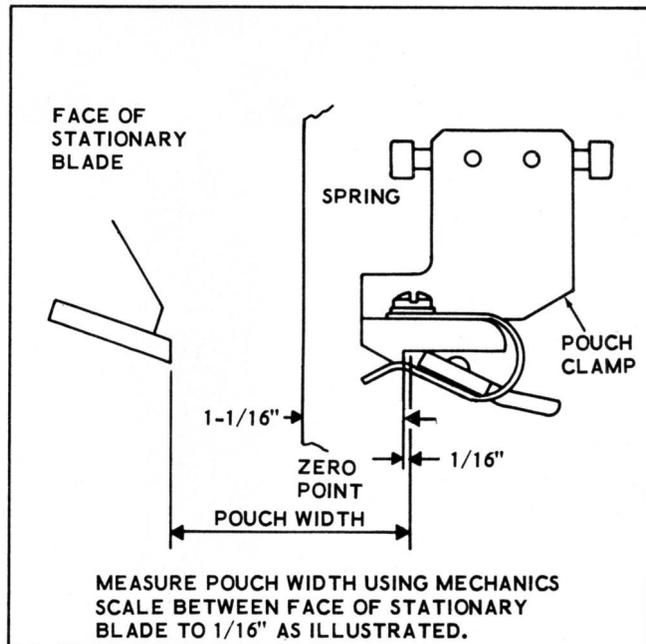

Figure 3-34. Measuring Pouch Width from Stationary Knife to Pouch Clamp
b. Fine adjustment of the feed roll and cutoff mechanism for pouch width is now accomplished by placing a scale against the fixed cutoff blade and measuring the pouch width to a point $1/16$ inch beyond the hook of the pouch clamp (Figure 3-34) that is in position to receive the pouch. Move the mechanism to left or right to obtain the proper dimension.